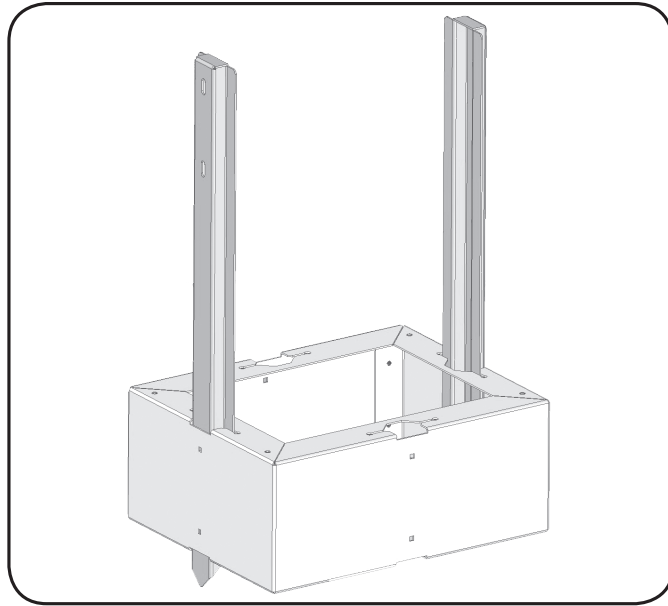

Figure 6.1
3. Position the pedestal box over the site. See Figure 6.1.
4. Insert the stakes through the slots as shown in Figure 6.1.